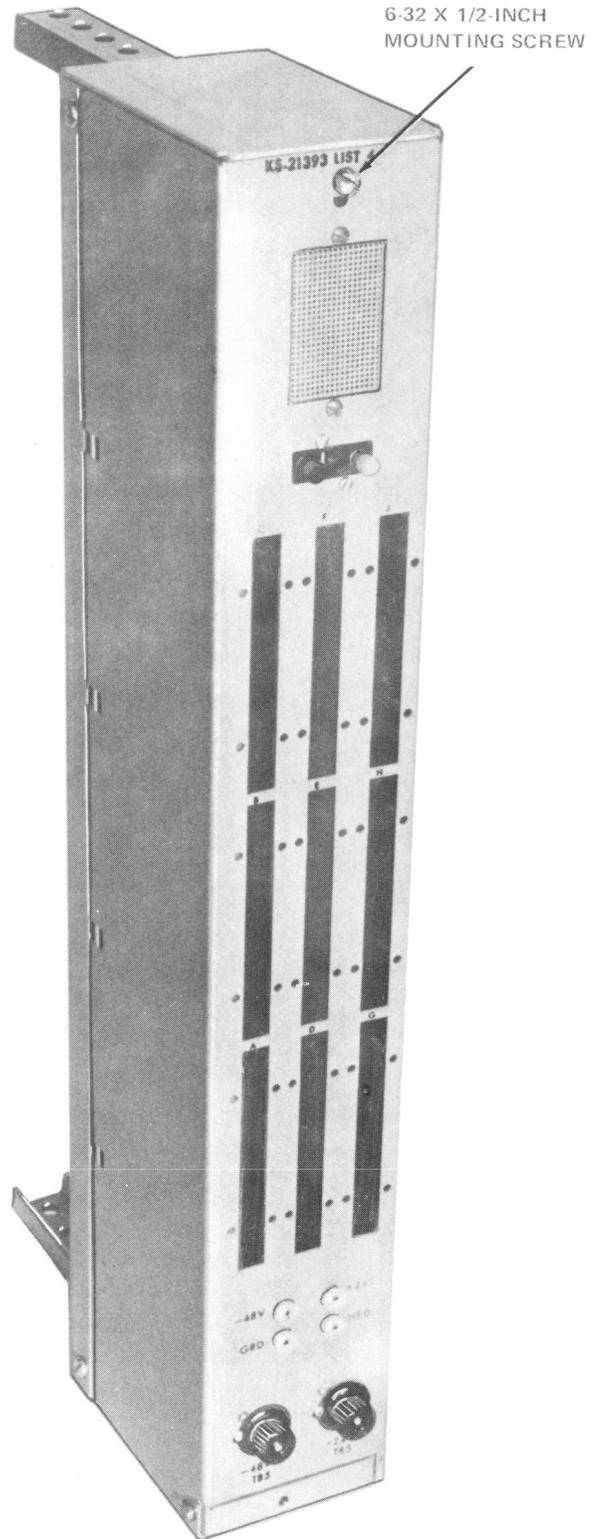
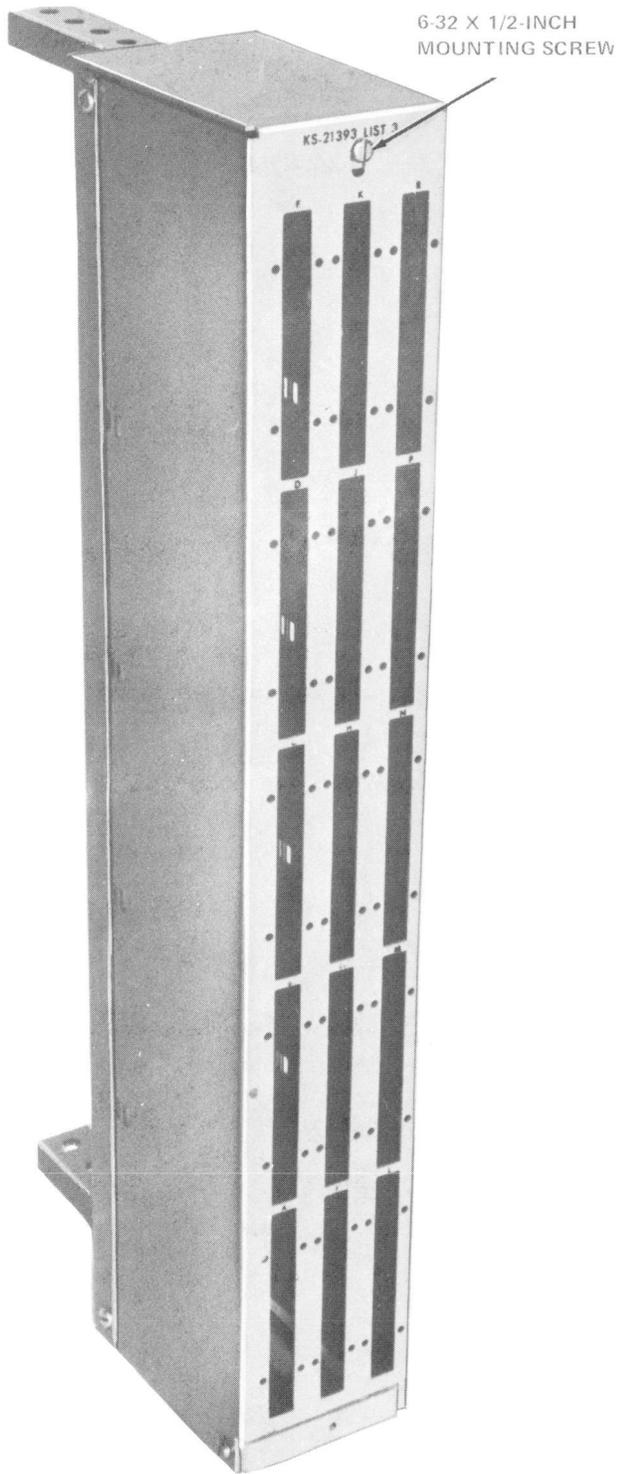

Fig. 9—KS-21393-L4; ED-6C110-10, G44 Test/Talk Panel
Fig. 10—KS-21393-L3; ED-6C110-10, G43 Test/Talk Panel
3.04 The test/talk panels for the double-sided protector frame are ED-6C110-10, G44 and G43. Figure 9 shows the G44 panel and Figure 10 shows the G43 panel. Access to the internal components of these test/talk panels is given in the following steps:
- (1) Remove the 6-32 by 1/2-inch mounting screw which holds the sheet metal face panel to the mounting brackets. See Fig. 9 or 10.